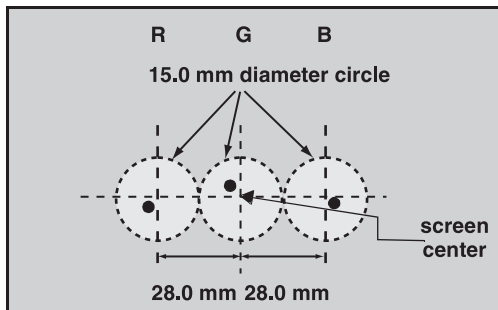

Figure 33. Centering magnet
14. Confirm that the picture is correctly aligned in the center of the screen, shown in figure 33, adjust the centering magnets. Repeat the alignment magnet adjustments and four pole magnet adjustments (step 1. ~ step 12.).